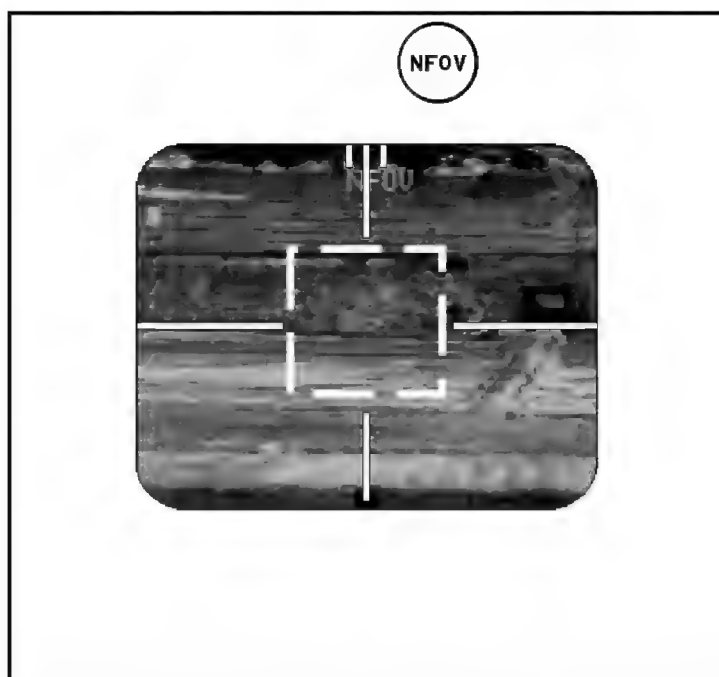

Figure E-26. Infrared clutter—background ΔT pattern matches target ΔT pattern.
- Clutter from solar heating. When solar heating causes clutter, the clutter stays in the same place and keeps the same appearance for a long time. ΔT 's are present in the target and in the background, but the two ΔT patterns match so closely that the gunner may not be able to distinguish the target from the background (Figure E-26). In addition, the range of temperatures in the clutter is the same as those in the target.